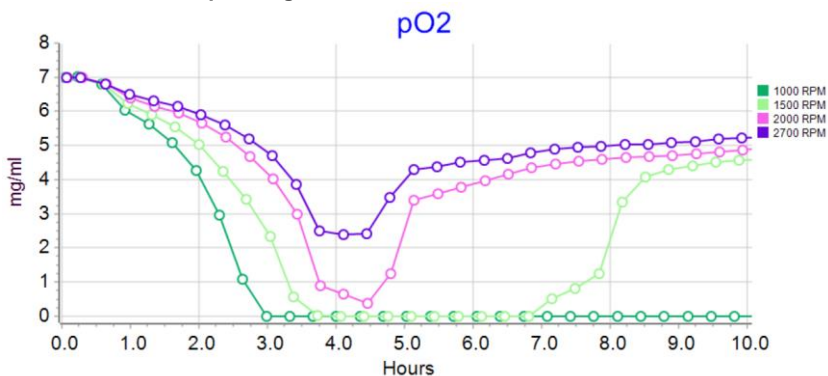

Figure 9. Influence of the speed of rotation of the tube on the dynamics of the change in the concentration of oxygen in the cell suspension.
Working volume was 10 ml, the cultivation temperature was 37 °C, the measurement interval (MI) of the sensors were every 20 minutes, the reverse spin interval (RSI) of the tube 1 time per second, the intensity of rotation of the tubes - according to the signatures to the legends (fig. 9). The aeration intensity was changed by changing the rotation speed or angular velocity (ω) of the bioreactor tube in discrete ranges of $\omega = 1000$ rpm (green curve), $\omega = 1500$ rpm (light green), $\omega = 2000$ rpm (pink curve) and $\omega = 2700$ rpm (purple curve).
Let us consider the obtained data of the dependence of the change in the rate of growth of oxygen consumption and of pH of the nutrient medium on the rate of rotation of the tube. From the data obtained (see fig. 9), it is clear that an increase in the rotation speed of the tube leads to an acceleration of the growth rate of the optical density of the nutrient medium (OD600) and therefore of cells whose concentration (in mg/ml) corresponds to the values of OD600. The greatest difference in cell concentration is for 4-5 hours of cultivation and then after 10 hours the OD of all variants is compared in the region of 6.0-6.5 OD600, which is the maximum possible yield of biomass of *E. coli* BL21 cells on the LB medium.
From the data presented in fig. 9, it is seen that during the transition of the culture to the logarithmic growth phase, an increase in the intensity of oxygen consumption from the medium consumed for aerobic generation of ATP is observed. If under intensive aeration conditions (corresponding to $\omega = 2000$ rpm and $\omega = 2700$ rpm) the cell culture does not fall into hypoxic shock, then for aeration intensity corresponding to ω from 1500 and below, hypoxia is observed - that is, a state in which the OTR is lower than the intensity of oxygen consumption by the culture. It is interesting to note that this transition is observed at cell concentrations in the medium corresponding to the values given in Table 2.